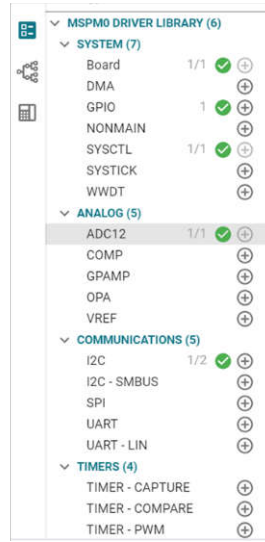

Figure 2-5. Peripheral List Comparison
- The classification of peripherals in SysConfig is clearer, the overall interface has high readability, and the human-computer interaction interface is great, as shown in Figure 2-5.